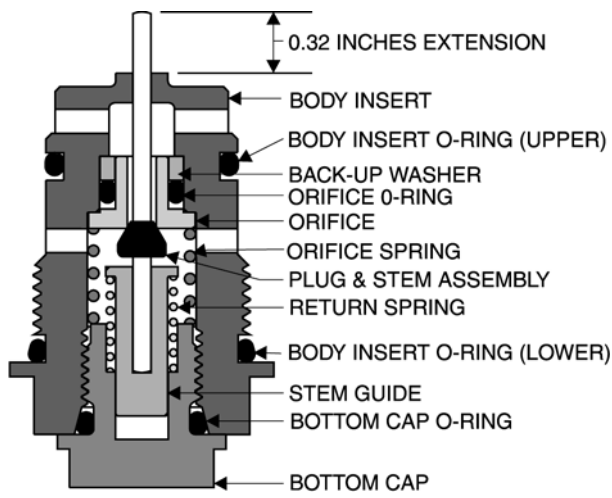
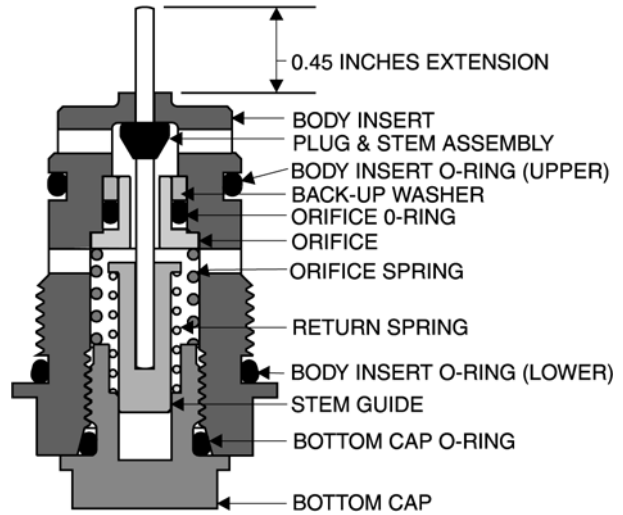

Figure 20
Figure 22
- 3. CONTROL ACTION:** Inspect to make sure the Body Insert Assembly (Cartridge) is in the correct operational mode. Remove the Body Insert Assembly and measure the stem extension from the Body Insert. (Refer to the Maintenance section of this manual - Figure 20 & Figure 22, page 9.)
7A. Refer to Figure 20 & 21. Stack the following parts on the bottom cap in the order shown in the drawing:
7B. Refer to Figure 22 & 23. Stack the following parts on the
NOTE: The plug on the Stem will be ABOVE the Orifice Assembly for a Back Pressure or Relief Mode (Refer to Figure 22).
The plug will be BELOW the Orifice for the Pressure Reducing Mode (Refer to Figure 20).
- The Series 20H and 20HS Pilots in back pressure mode require a delrin orifice and all stainless steel stem/plug in the Body Insert (Cartridge). Assemble the orifice assembly the same way you would the Back Pressure Body Insert (Cartridge) with the stainless steel orifice and stainless/nitrile stem/plug assembly. (Refer to Figure 22 & Figure 28).